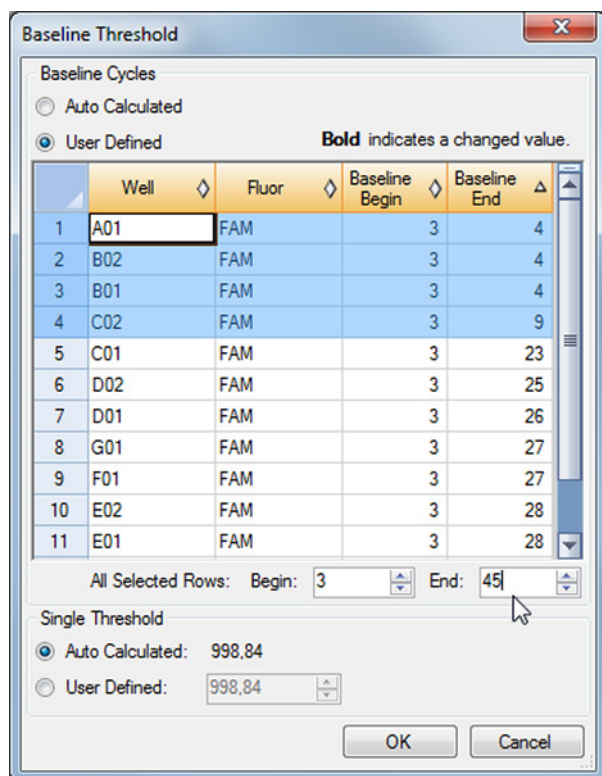

Figure 5: Baseline Threshold dialog
3. In the menu bar of the Data Analysis window click **Settings** → **Baseline Threshold...** to open the Baseline Threshold dialog (see figure 5).
5. Select all lines that show a **Baseline End** value of 1–9 (see figure 5).
6. Set the value in the **End:** field to 45 for the selected lines (see figure 5).
9. Repeat steps 3–7 for the VIC™ (IC) and Cy5 (S gene) detection channels.